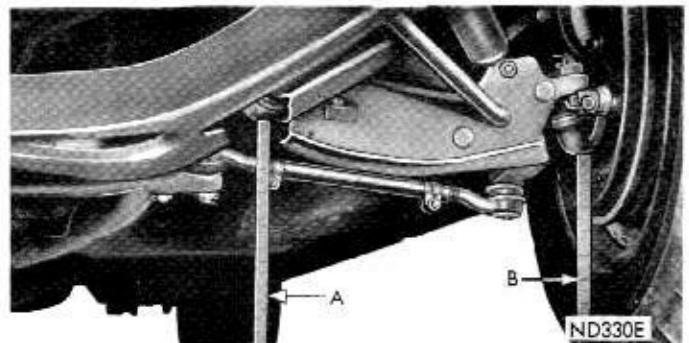

Fig. 2—Measuring Front Suspension Height
(1) Clean all foreign material from bottom of steering knuckle arm assemblies and from lowest area of the height adjusting blades directly below center of lower control arm inner pivots.
(2) Jounce vehicle several times releasing it on downward motion.
(3) Measure distance from lowest point of one adjusting blade to floor (Measurement A) and from lowest point of steering knuckle arm, at the centerline, on same side (Measurement B) to floor (Fig. 2). **Measure only one side at a time.**